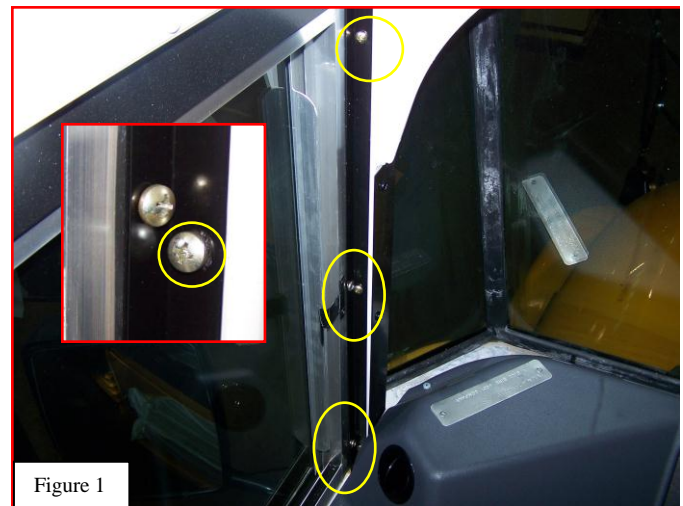

Figure 1
On the inside of the bus; (Figure 1)
1. Remove the screws from the vertical trim to the post and retain (circled in yellow). There will be two screws holding the vertical trim to the window frame, it is *not* necessary to remove these screws. Refer to inset photo on Figure 1 for clarification.